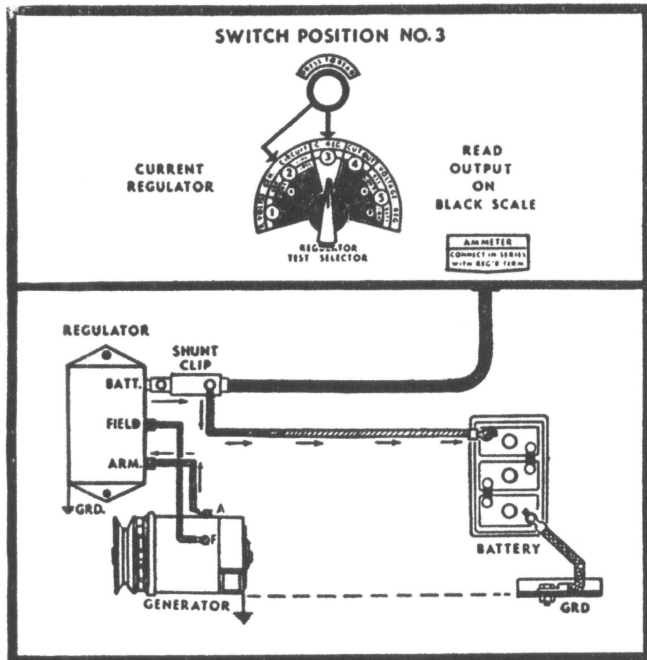

Fig. 6
**CURRENT REGULATOR TESTS—(3 unit types) Fig. 6**
#### REVERSE CURRENT—Fig. 6